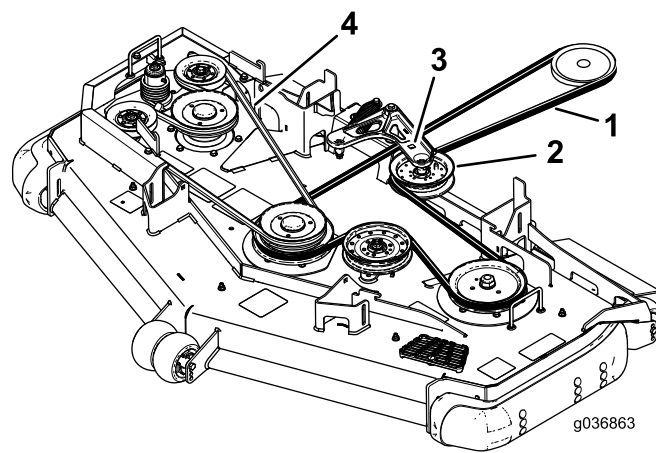

Figure 99
9. Rotate and ensure the belt-guide tab hits against the pivot hub (Figure 99).
10. Using the ratchet in the square hole, install the belt around the spring-loaded idler pulley (Figure 99). Seat the spring ends in the anchor grooves.
6. Use a ratchet in the square hole in the idler arm to remove tension on the idler spring (Figure 99).
8. Install the new belt around the mower pulleys and the clutch pulley under the engine (Figure 99).